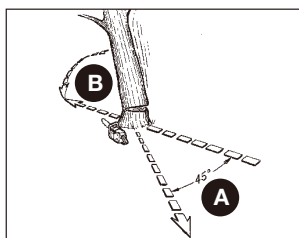

Fig. 11A
**WARNING:** A retreat path **A** should be planned and cleared as necessary before cuts are started. The retreat path should extend back and diagonally to the rear of the expected line of fall, as illustrated in Fig.11A.
**WARNING:** As the felling cut gets close to the hinge, the tree should begin to fall. When tree begins to fall, remove saw from cut, stop engine, put chainsaw down, and leave area along retreat path (Fig.11A).